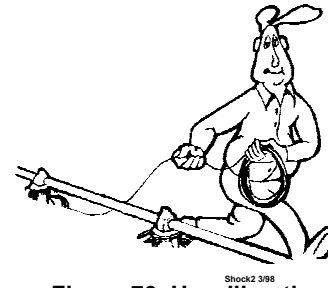

Figure 79. Unrolling the Cable
1. Unroll the bulk anti-roost cable. Note: If the cable is unrolled as shown in **Figure 79**, taking 5 loops of the coil with one hand, then changing hands to remove 5 loops as it is unrolled, it will lie flat during installation.